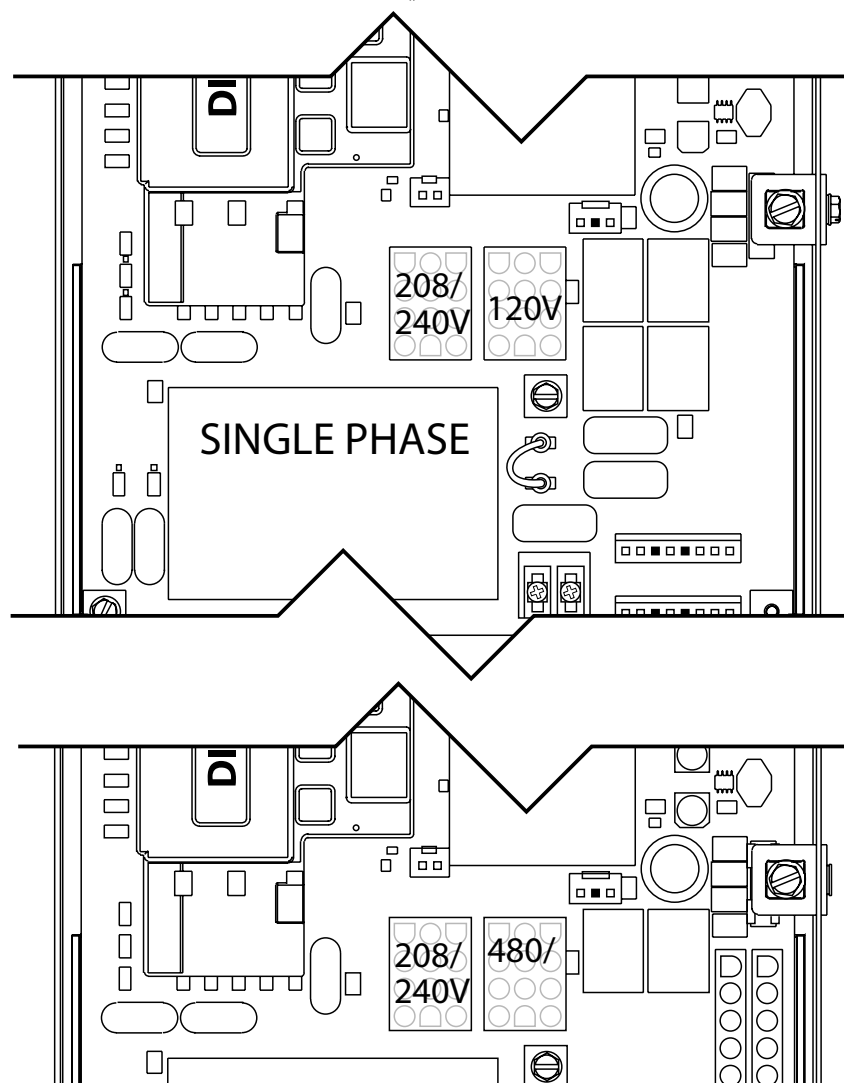

Fig. 14
- 1) Plug motor harness into proper connector on control board in electrical box. Fig. 14